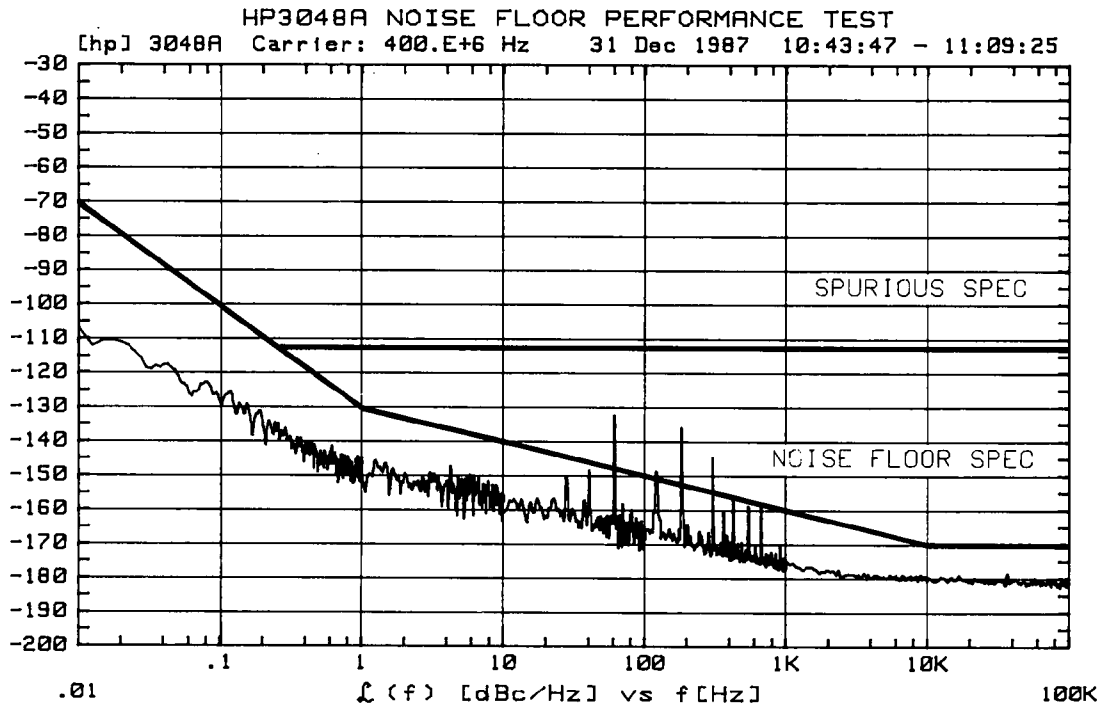

Figure 8. Typical Noise Floor Test Results
7. Press the **Proceed** softkey. The measurement should proceed automatically without error messages and the measured noise should be similar to that shown in Figure 8. (The measurement takes about 30 minutes depending on the controller and the presence of the RF spectrum analyzer.)